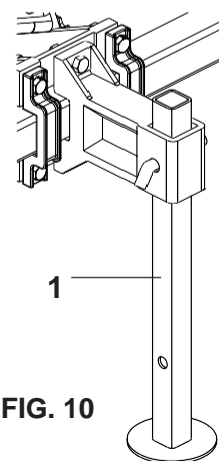

FIG. 10
6 - Lower the support bracket (1). **(FIGURE 10)**